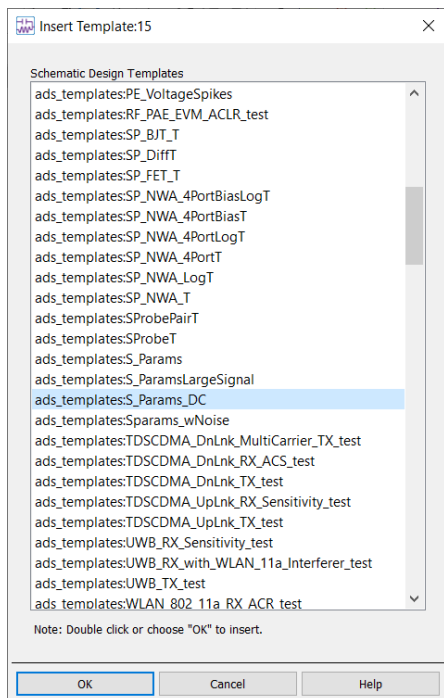

Figure 30. Insert Template Window
3. In the schematic window, select **Insert > Template**. Scroll down and select **ads_templates:S_Params_DC**. This is shown in Figure 30.